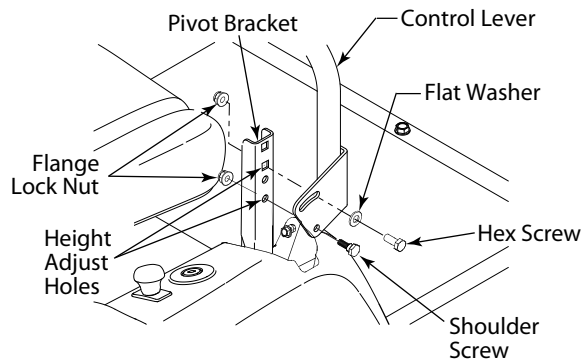

Figure 6-6
- While supporting the control lever to keep it from falling, remove the hex insert flange lock nut and shoulder screw from the bottom of the control lever and pivot bracket. Refer to Figure 6-6.
If not already loose, loosen the flange lock nut and rotate the control lever either forward or rearward to the desired position. See Figure 6-6.